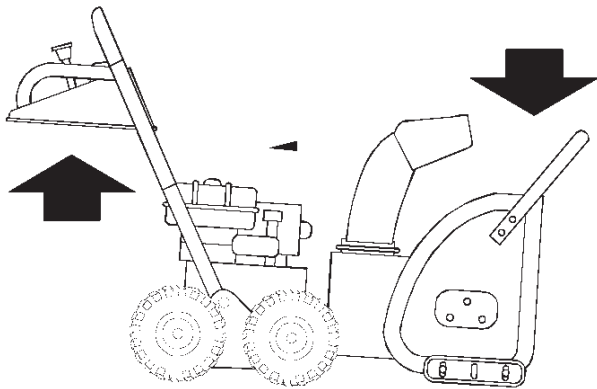

FIGURE 7.
3. Separate the housing from the frame assembly by standing in the operating position and lifting up on the handles. The frame and housing will separate, and the rear auger drive belt will come off the pulleys. See figure 7.